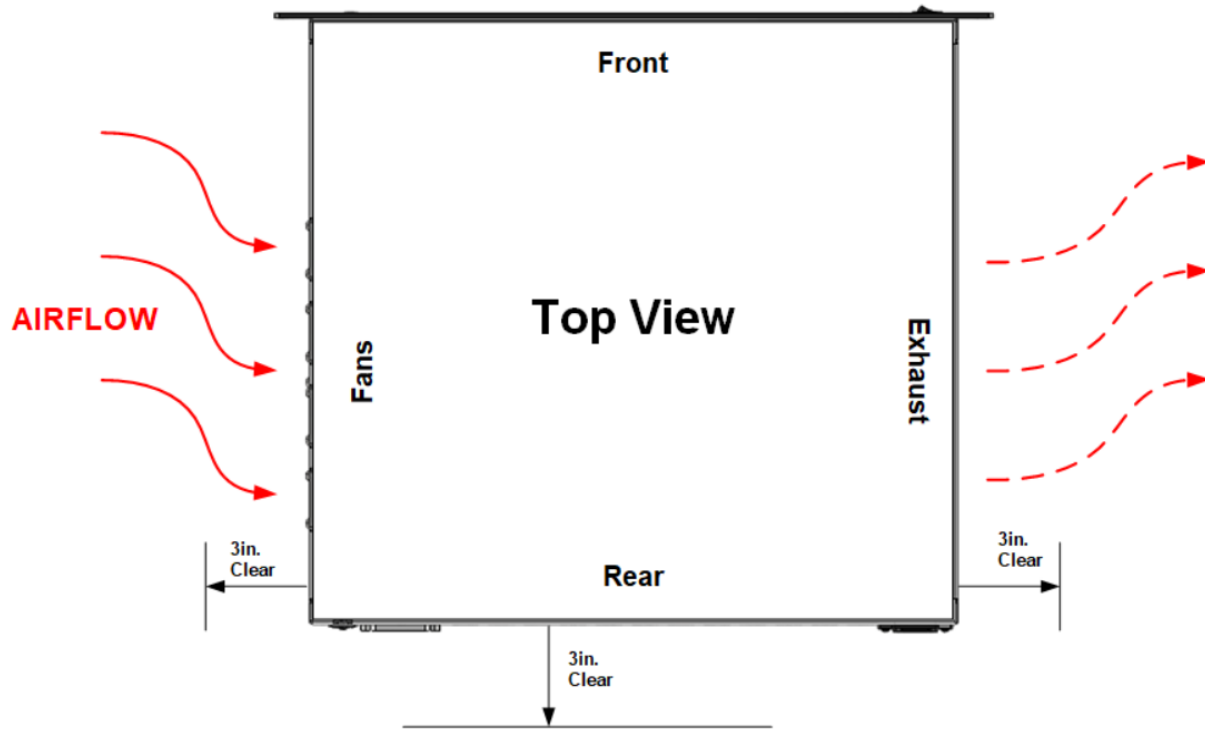

Figure 1: Unit clearances for intake and exhaust
- See Figure 1 for clearance requirements